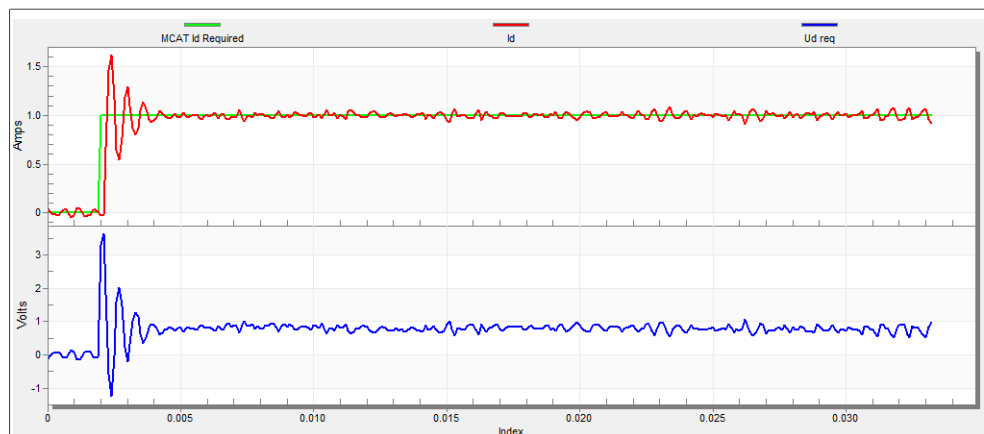

Figure 23. Fast step response of the Id current controller
- The loop bandwidth is high (700 Hz) and the response time of the Id current is very fast, but with oscillation and overshoot (see Figure 23).